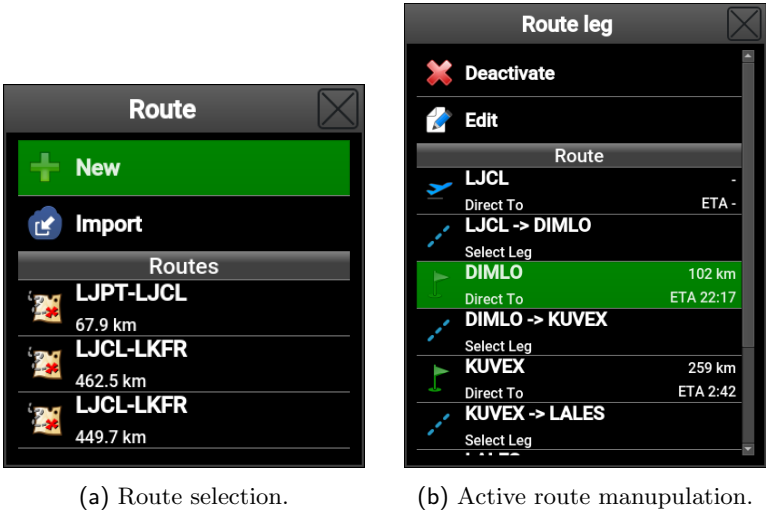

Figure 36: Route window depends on active route status.
With no active route a window opens, like shown in Figure 36 left. Routes are sorted alphabetically. Route name is typically defined by a takeoff - landing airfield pair.
When the *Route* command is issued and some route is already active, a different window appears. See Figure 36 right.
- Insert the stick into Nesis and select the **Import** command. See Figure 36 left.
When the **New** option is selected, see Figure 36 left, Nesis switches to a special *Route Planning* screen. Touch screen is used extensively in planning.